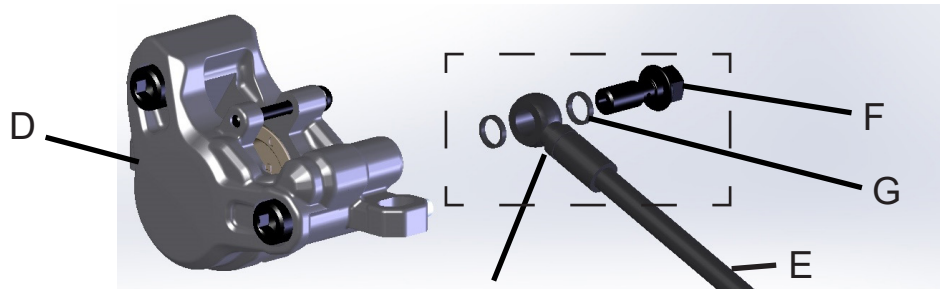

Figure 4
- 9) Position the caliper (D) directly over the drip pan and remove the banjo bolt (F) using the 8mm wrench to disconnect the brake line.
- 10) Install the brake line (E) to the new caliper (D) making sure to utilize an O-ring (G) on each side of the banjo fitting (H) and tighten to 60 +/- 5 in/pounds of torque (Figure 4).
- 11) Wipe up any brake fluid that has leaked on the caliper (D).